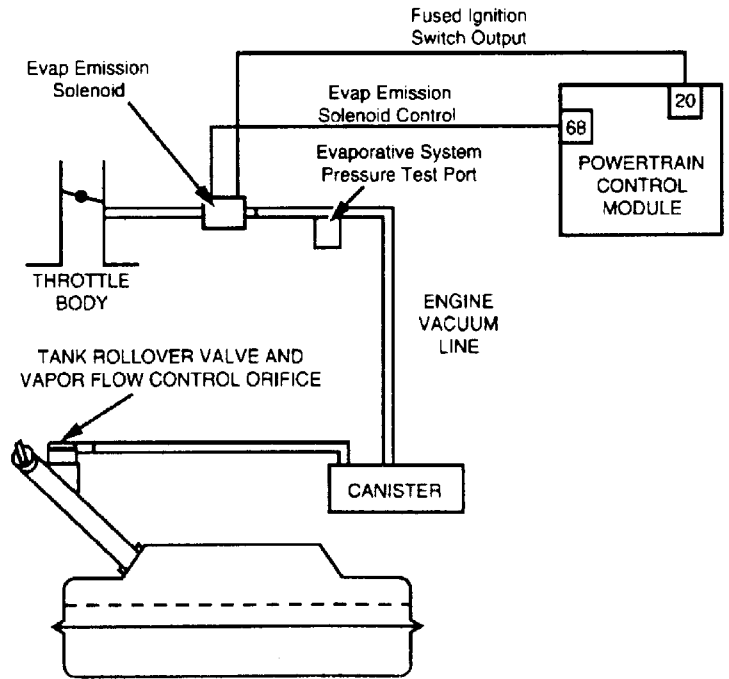

Figure C064-2 Evaporative purge flow monitor circuit for 1996–98 car and minivan without a leak detection pump
- Figure C064-2 Evaporative purge flow monitor circuit for 1996–98 car and minivan without a leak detection pump